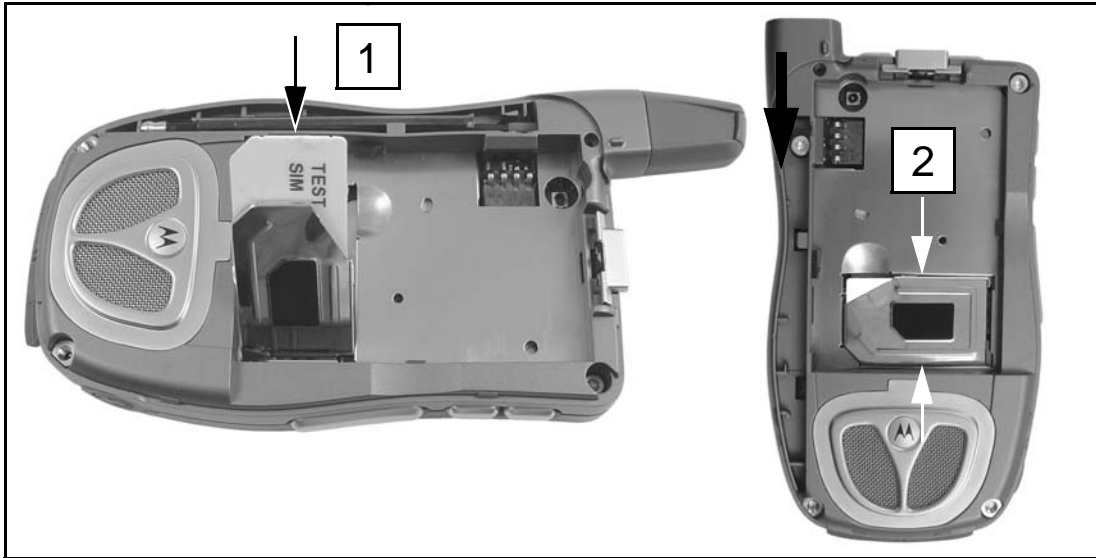

Figure 7-8.
1. Align and insert SIM card into SIM card door (see Figure 7-8).